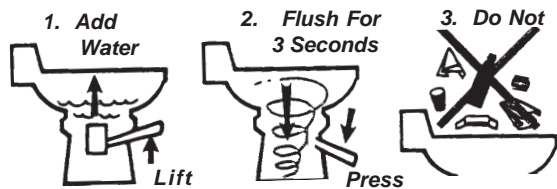

Figure J12: Vacu-flush™ Operations
The Vacu-flush® toilet operates in a different way from other marine toilets. Vacu-flush® systems use a small amount of water (a little more than a pint) per flush in addition to a simple vacuum. The toilet is connected to the fresh water system. Fresh water is the key to an odor free bathroom compartment. Vacu-flush® toilets are equipped with an intergrade vacuum breaker which prevents the possible contamination of the potable/fresh water supply. See Figures J12 & J13. Also refer to the manufacturer's literature included in the owner's packet.
1. To add water to the toilet before using, raise flush lever until desired water level is reached. Generally, more water is required only when flushing solids. See Figure J12.